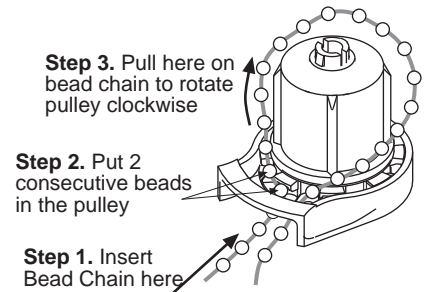

Figure 6. Insert Bead Chain
Step 4. Insert bead chain into the clutch as shown in Fig. 6.